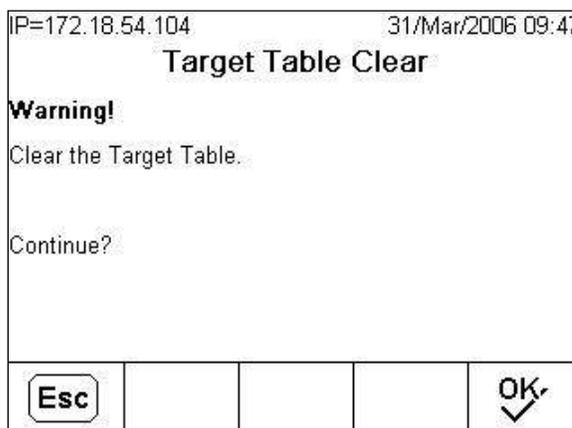

Figure C-28: Clear Target Table Warning Screen
1. Press the CLEAR softkey  when viewing the first setup page for the table in Setup at **Application > Memory > Target Table**. The screen is shown in Figure C-28.